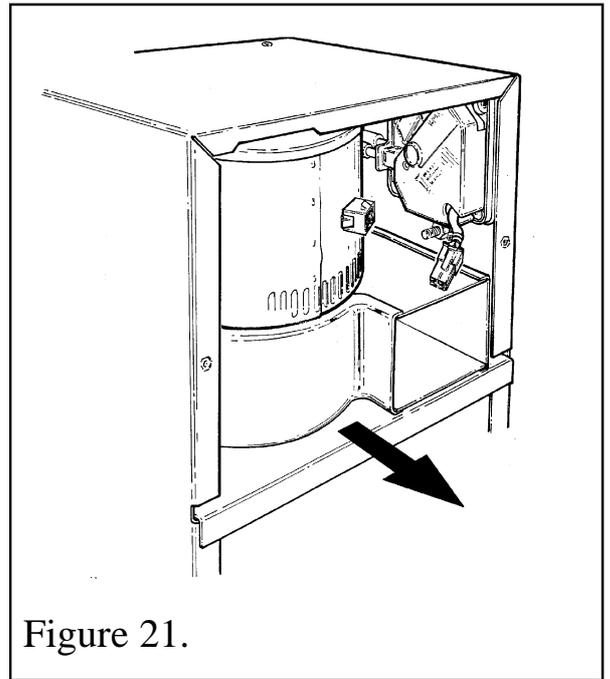

Figure 21.
1. Remove the 2 cover retaining screws and withdraw the fan unit (See figure 21). Check inside for any loose unwanted packaging